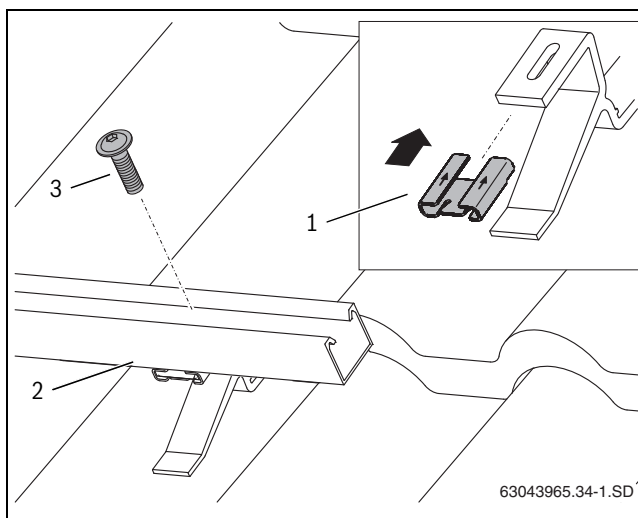

Fig. 28 Fastening profile rails to the roof hook
- Push sliding nut (Fig. 28, [1]) onto the roof hook in the direction of the arrow.
- Place the lower profile rails (Fig. 28, [2]) onto the roof hooks and loosely fasten M8 bolt (Fig. 28, [3]) so that the profile rails can still be aligned.